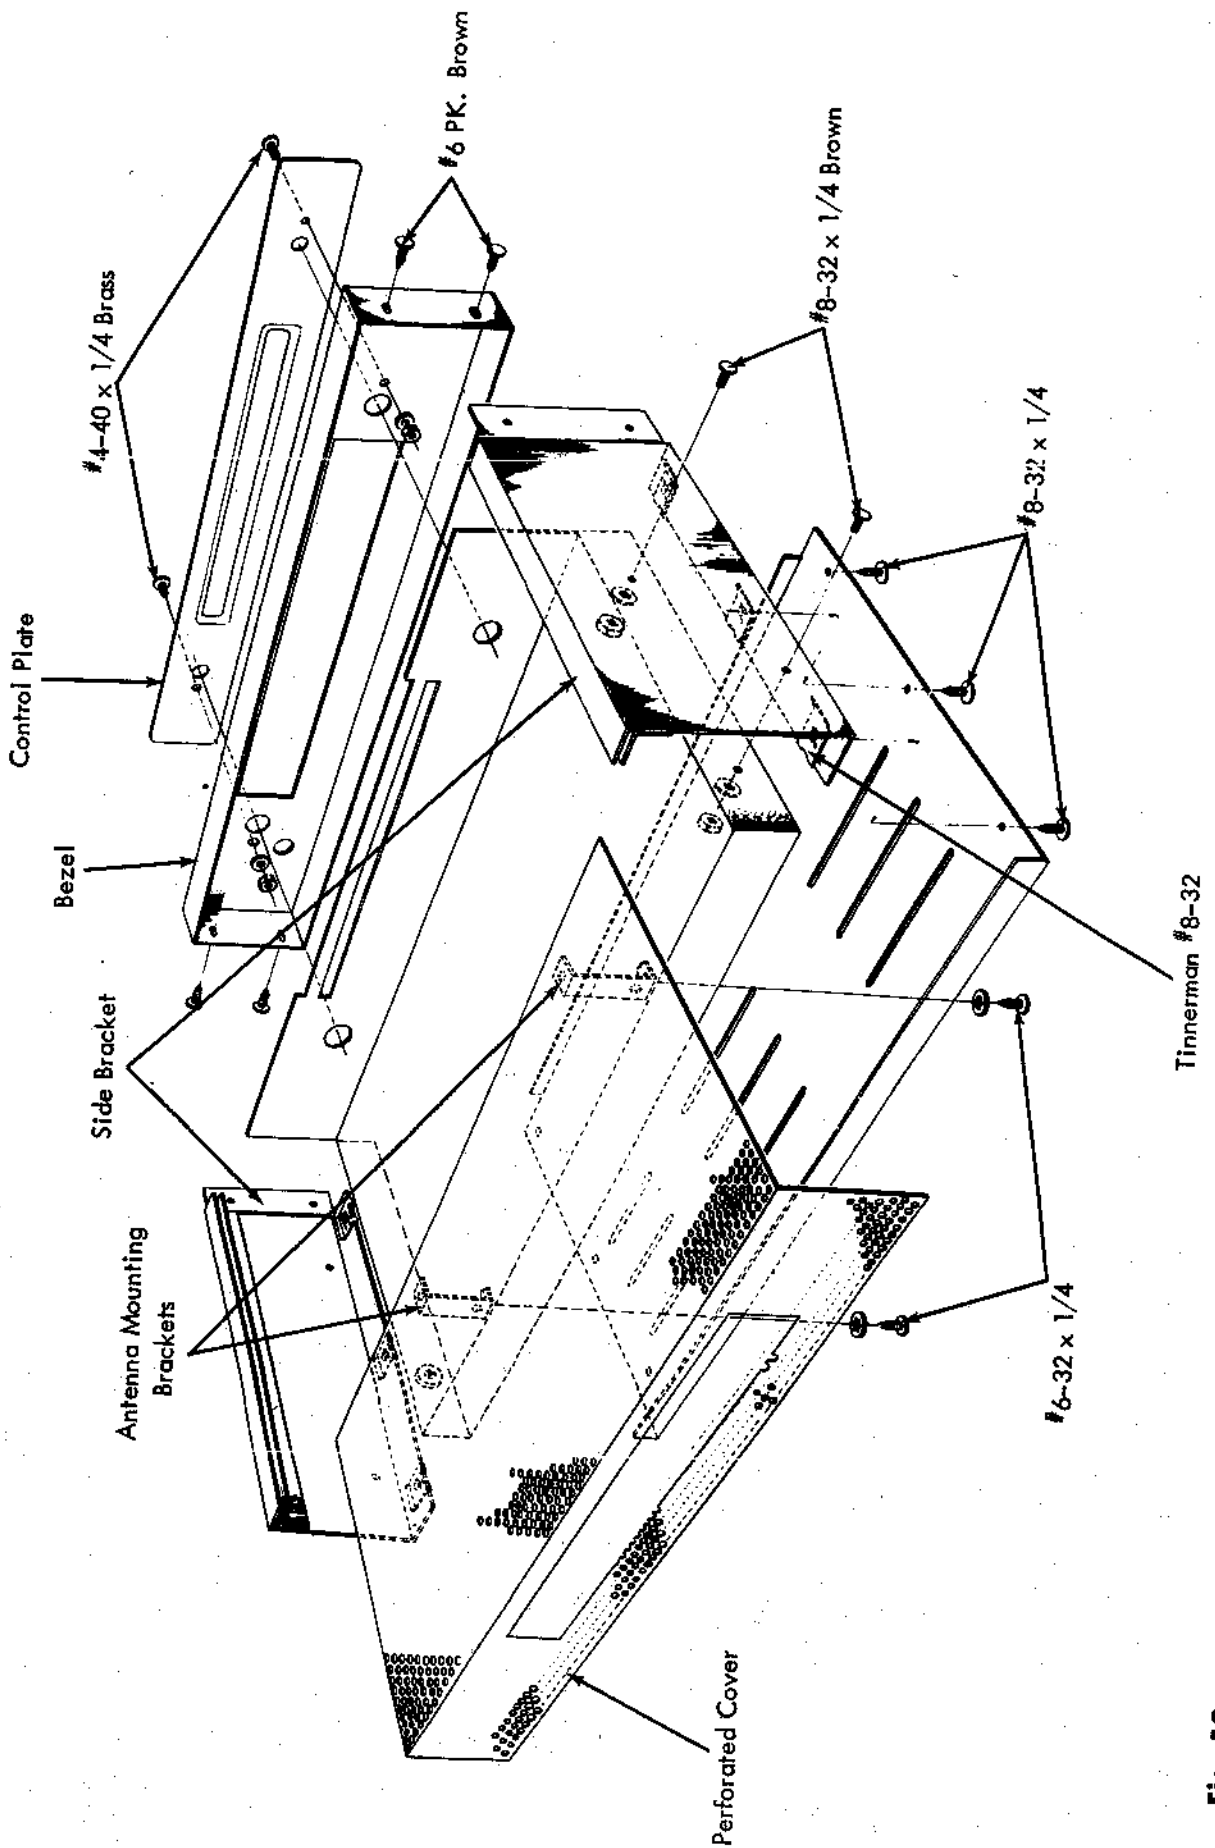

Fig. 13
- 4) () Fig. 13. Assemble left side mounting bracket (with front of the chassis facing you) using two #8-32 x 1/4 brown colored screws, two #8-32 hex nuts, and two #8 lockwashers. Assemble right side mounting bracket using two #8-32 x 1/4 brown colored screws, one #8-32 hex nut, and one #8 lockwasher. Please note that one #8-32 nut is spot welded to the chassis.
- 5) () Fig. 13. On the bottom flange of each side piece, press a #8-32 - Type J speed nut in place over each of these holes. Note that the short leg of the nut faces up towards you.
- 6) () Fig. 13. Mount the control plate on the bezel using two each #4-40 x 1/4 brass screws, #4 lockwashers, and #4 hex nuts to fasten it to the bezel.
- 7) () Fig. 13. Fit the bezel and control plate over the projecting control shafts, onto the ends of the side brackets. Assemble the bezel to the side brackets with four #6 x 1/4 brown colored P. K. screws.
11) () Fig. 13. Install the rubber feet in the openings provided in the bottom plate. The method is to work the rounded portion of each foot into the interior of the cabinet from the outside, using a small screwdriver. The flat portion should be the actual resting or contact surface.
12) () Fig. 13. Insert the perforated cover into the "rails" on the side piece and slide it forward fully. The antenna loopstick will slide through the cutout in the rear of the perforated cover. If the perforated cover does not slide fully forward, temporarily loosen the screws holding the side brackets, slide the cover fully forward and retighten the screws.
13) () Fig. 13. Fasten the perforated cover to the two antenna mounting brackets at the rear of the chassis. These brackets have previously been used in the mounting of the antenna loopstick. Use two #6-32 x 1/4 screws.
14) () Fig. 13. Mount the bottom plate on the bottom flanges of the side pieces, using six #8-32 x 1/4 uncolored screws. Note that the rear flange on the bottom plate fits over the outside of the rear chassis apron.
15) () Fig. 13. Remove the backings from the two labels supplied and place them on the outside surface of the bottom plate.